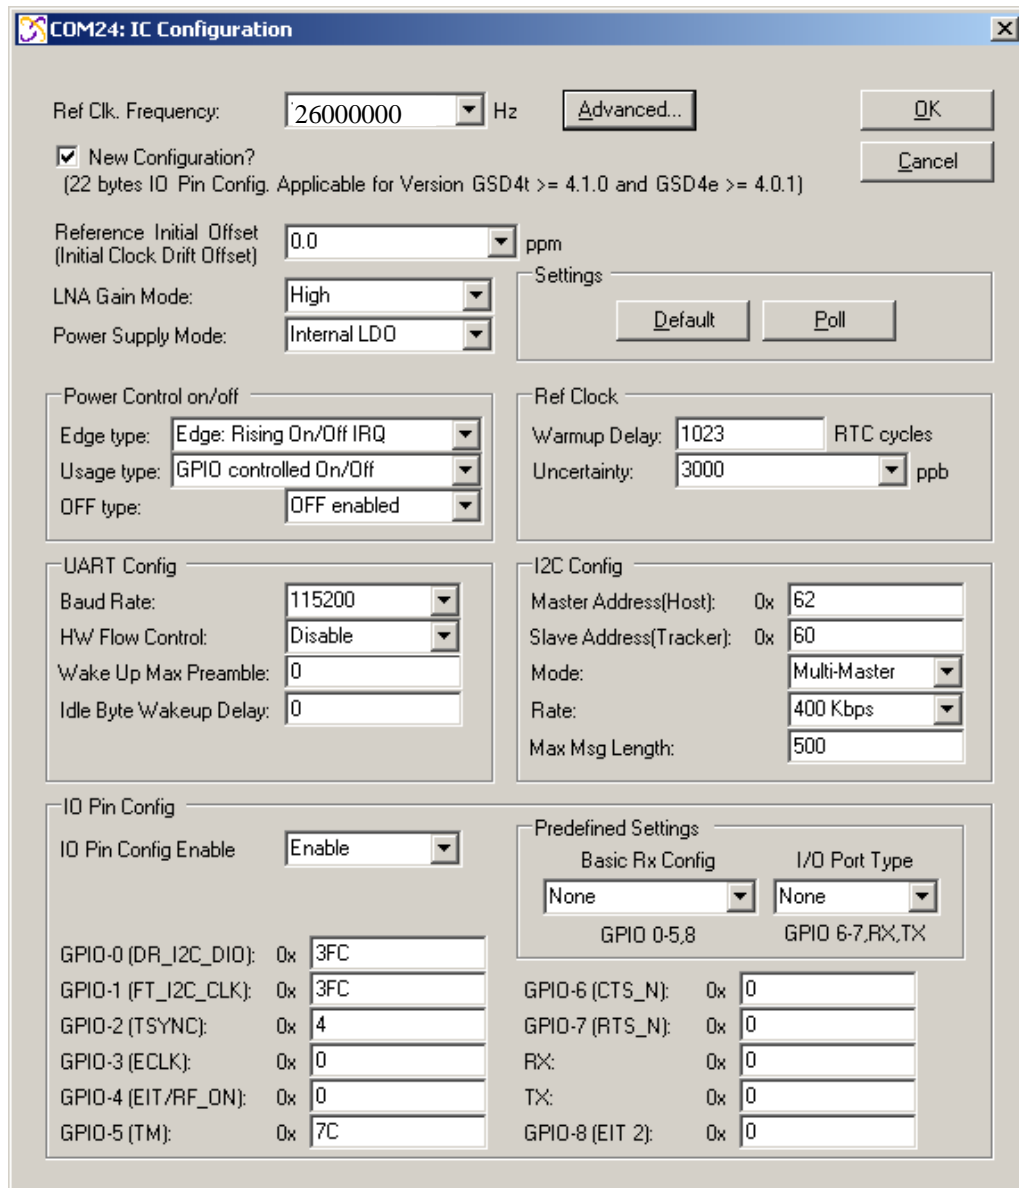

Figure 16: Configuring the IC parameters.
- ii. Under the selection “LNA Gain Mode:” verify the LNA is in low gain. For passive antenna or simulator use the LNA gain should be set for high gain. *Figure 16* displays the IC Configuration window.